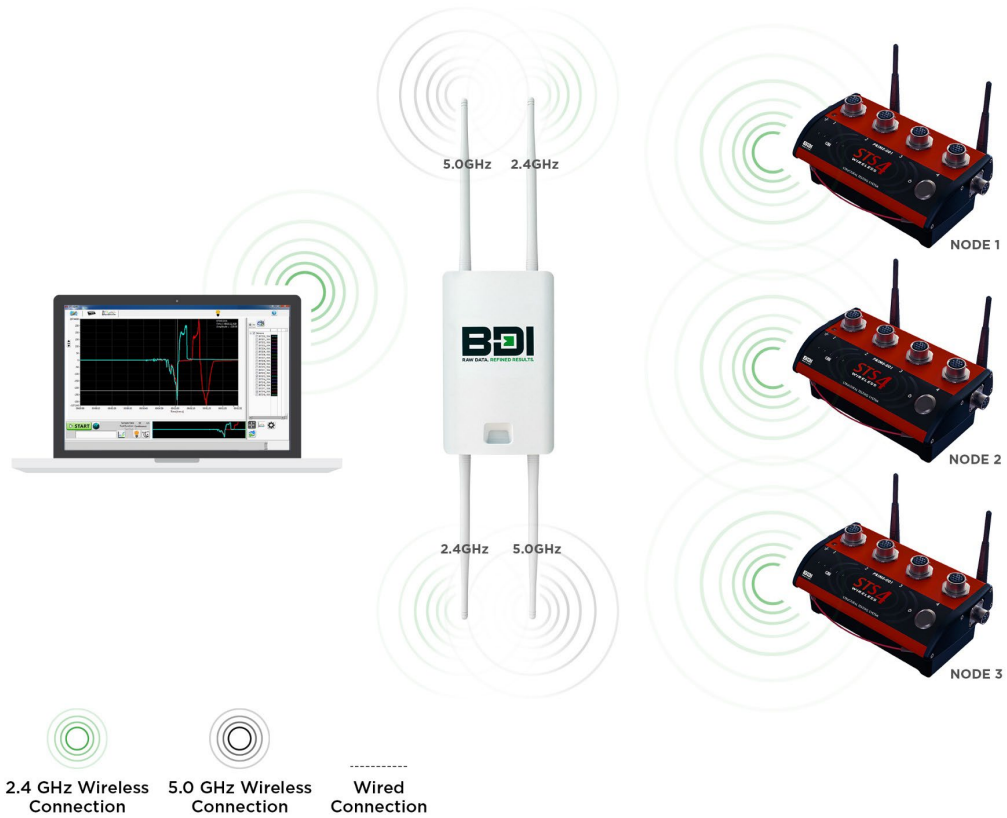

Figure 12: 100% Wireless single STS4-WBS
The communications capability of the STS4-WBS is provided by an internal Access Point (AP) that broadcasts the Wireless Local Area Network (WLAN) and manages all incoming and outgoing traffic between the STS4 nodes and the PC. All STS4-WBS units supplied by BDI are preconfigured with the "STS" network name (SSID) and should be visible to the computer's wireless network tool/application when configuring network settings. Figure 12 illustrates the standard STS4 wireless system configuration.